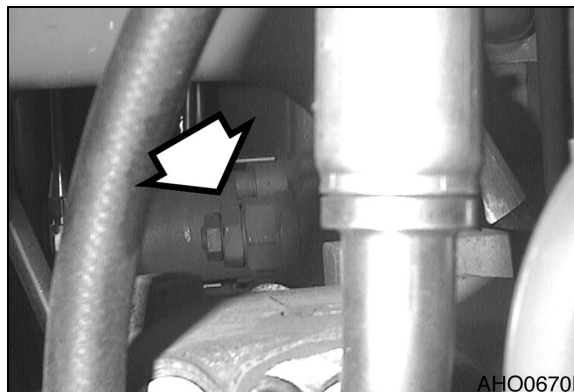

Figure 95
3. Adjust screw on relief valve cartridge (1, Figure 95). Loosen lock nut and turn screw clockwise to raise relief pressure. Turn screw counterclockwise to lower relief pressure.